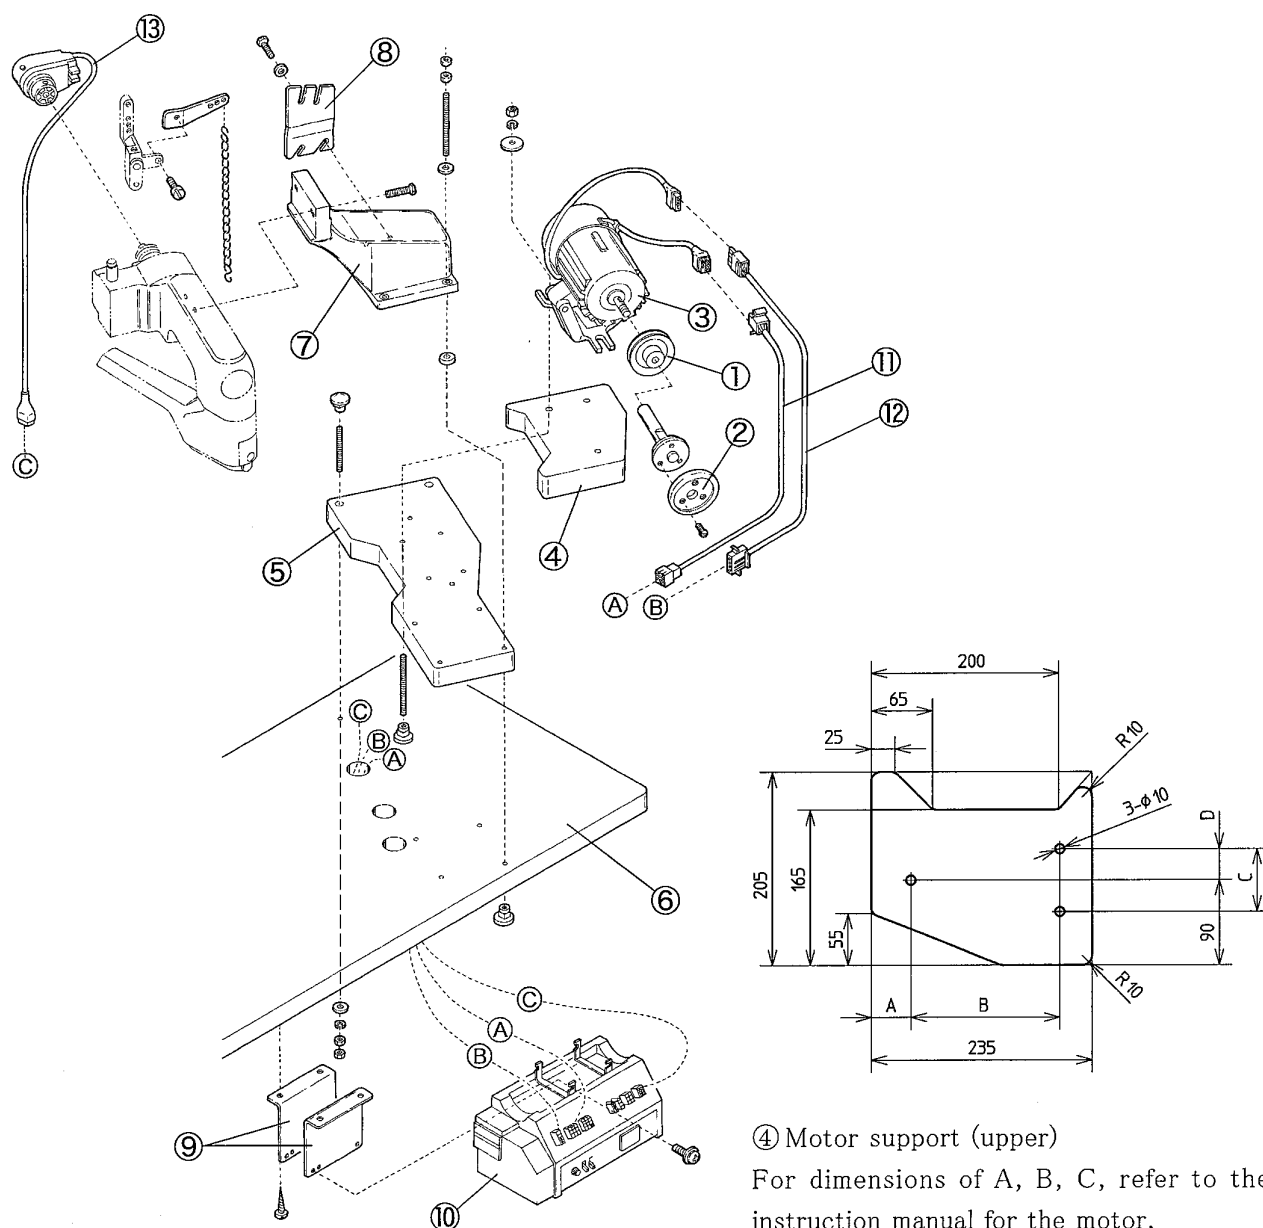

Fig. 2-4
Motor support (lower) (Fig2-3 ⑩ and Fig2-4 ⑤)
See Fig.2-4 to assemble the machine according to the following steps: